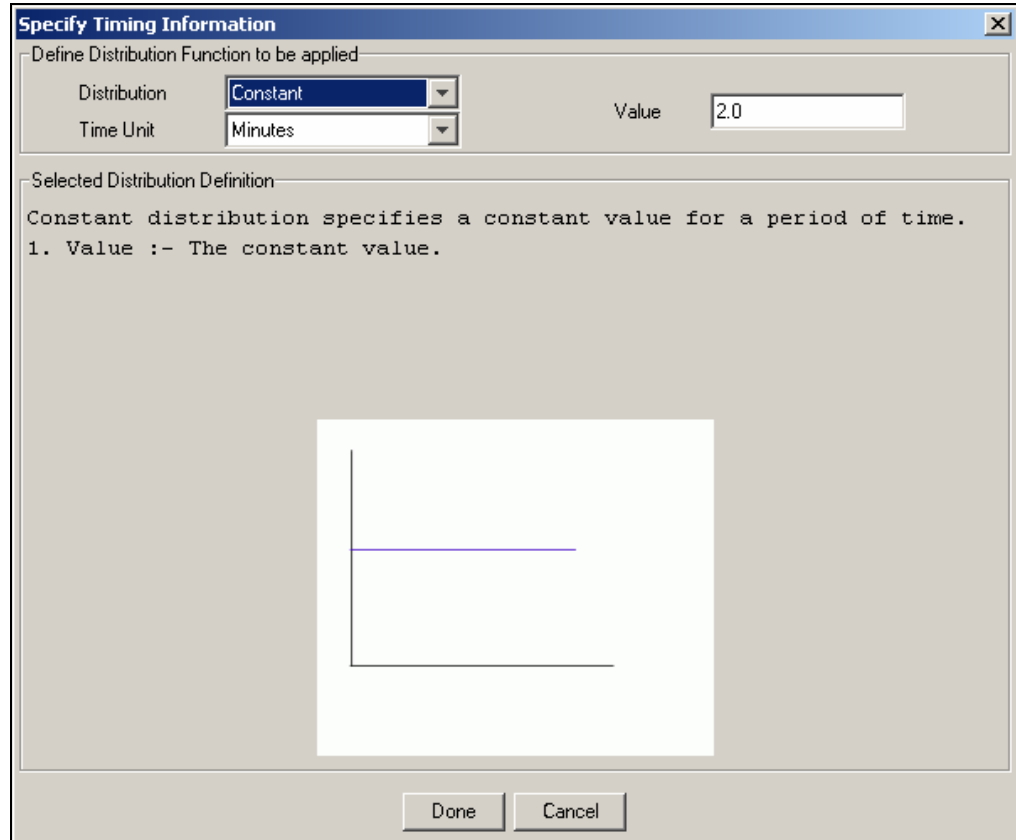

Figure 10.8: Define Time
6. To change the time interval, click *Change*. The *Specify Timing Information* dialog box appears (see Figure 10.8).